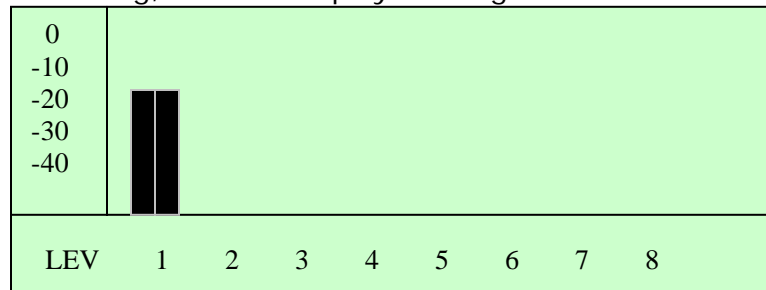

Fig.4 LCD Display after initialize
- After initializing, the LCD displays like figure 4.